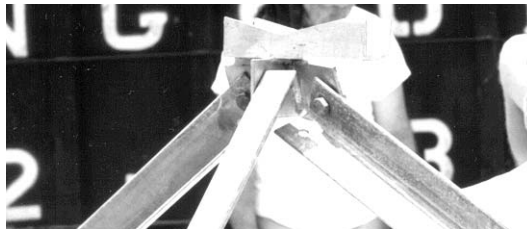

Figure 38
Step 5 Loosely attach support angles (P/N 49438) from plates E and A to angle (P/N 49436) from tee plate F with pivot bracket (P/N 300758) as illustrated in Figure 38.